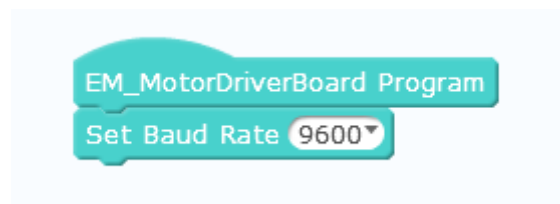

Figure 2-6
- 1) First, drag the EM_MotorDriverBoard main program in the building block area to the script area with the mouse, and then drag the "Setting Serial Port Baud Rate 9600" to the bottom of the building block of the "EM_MotorDriverBoard main program", as shown in Figure 2-6.